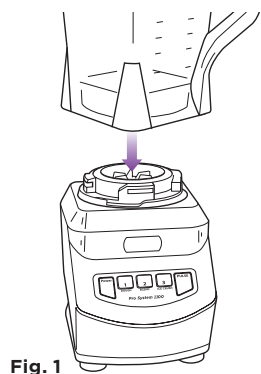

Fig. 1
- 2 Lower the pitcher or the bowl onto the motor base. (Fig. 1)